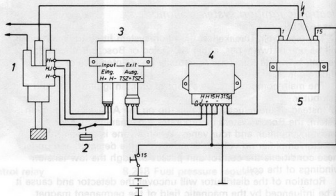

Fig. 13.85 Idle speed control (ISC) system (Sec 9)
- 28 Fig. 13.85 shows the layout of the ISC system. It operates as follows.